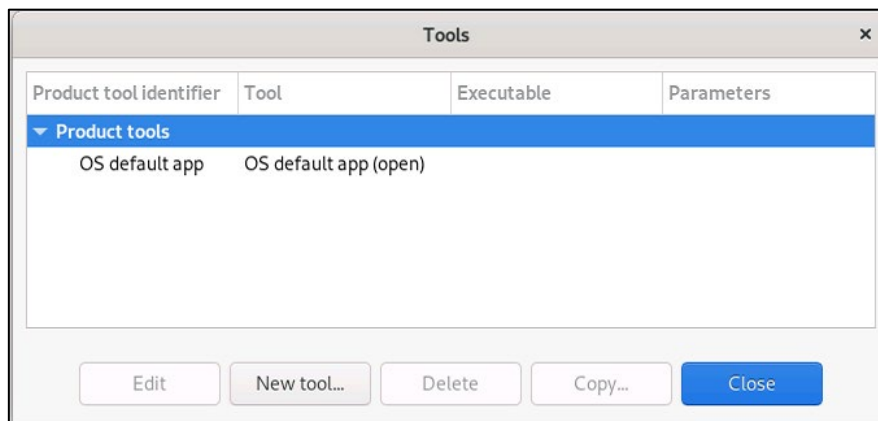

Figure 4-72: Tools list view
- Tool execution from the simulation edit view and execution results view (see Figure 4-72). The execution view is the same as the simulation view with two particularities, 'Results' tab is enabled and the status is completed (successfully or not). Note that in the execution view the status of the output files is shown as Available if the simulation chain has been successfully executed while in the simulation editing the status is shown as Pending (see section 4.3.3.6.3).